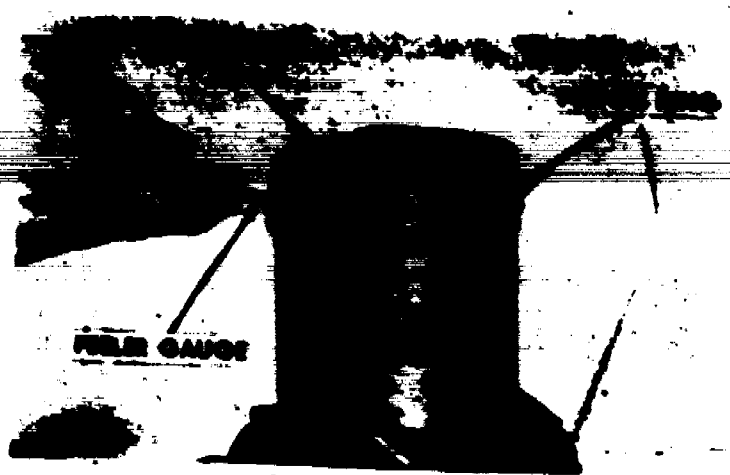

Figure 24. Checking Ring-to-Groove Side Clearance with Feeler Gauge.
The next group of parts to be inspected are the piston rings. The following items should be checked: (1) end-gap or the distance between the ends of the ring when it is at the bottom of ring travel, (2) side clearance, and (3) make sure the ring is free to turn in its groove on the piston. End-gap and side clearance are shown in figures 24 and 25. If there is too little end-gap, it can be increased by filing the ends of the ring. If there is too much end-gap, a larger ring will have to be installed. If too